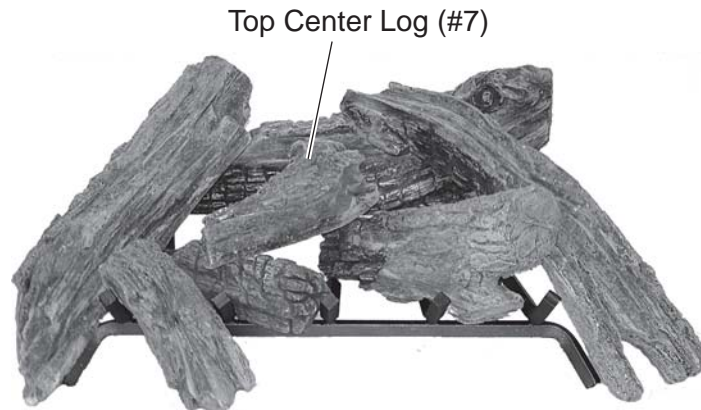

Figure 82 - Resting Center Top Log (#7) Bottom left Log and Back Log
8. Rest Top Center Log #7 on bottom left log #2 and back log #1. See *Figure 82*.